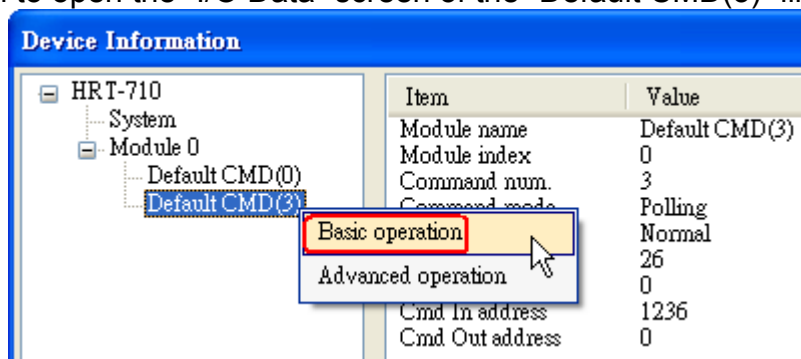

Figure 2-5 The “Basic operation” of the “Default CMD(3)”
(5) Right click the button of mouse on the “Default CMD(3)” item and choose the “Basic operation” option to open the “I/O Data” screen of the “Default CMD(3)” like Figure 2-5.